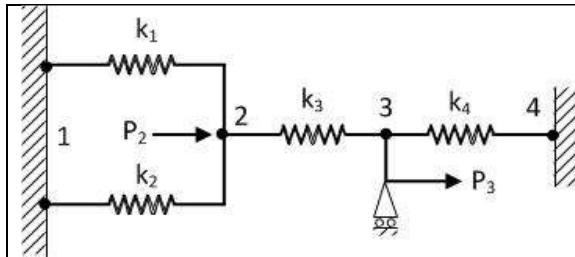

Figure. 1
- (c) Derive the Potential Energy equation for the spring system shown in figure 1. Determine the displacements of nodes of the same using the minimum potential energy principle. Take $k_1 = k_2 = 40 \text{ N/mm}$, $k_3 = 60 \text{ N/mm}$, $k_4 = 90 \text{ N/mm}$, $P_2 = 100 \text{ N}$ and $P_3 = 60 \text{ N}$. 07